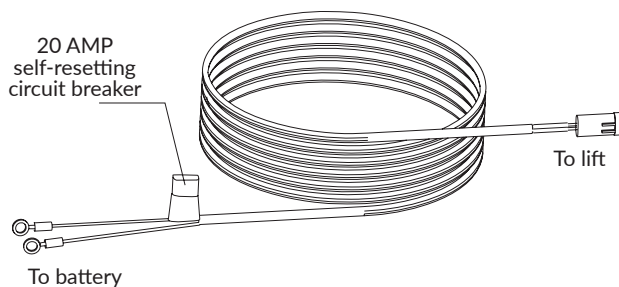

Figure 4-1
1. Unwind the wiring harness and lay it flat. The lift end of the harness has a black connector. This black connector goes to the trailer hitch area where the lift will mount. *See Figure 4-1.*